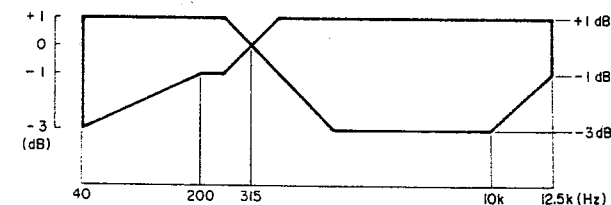

Fig. 6-6-3
- Connect test equipment as shown in Fig. 6-6-3. Connect an AF signal generator to AUX RCV (L & R) jack. Connect level meters to both TAPE OUT and LINE OUT jack (If two meters are not available, use one meter alternately.)
- 1) Connect test equipment as shown in Fig. 6-6-3.